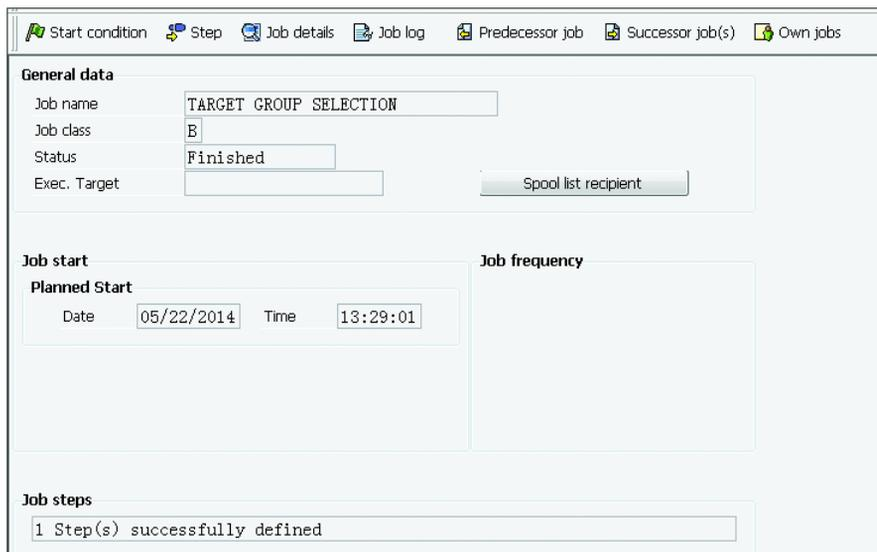

Figure 5.54 Job for the Target Group Creation
13. As shown in Figure 5.54, you can see if the target group ran successfully in the background under the JOB STEPS section.